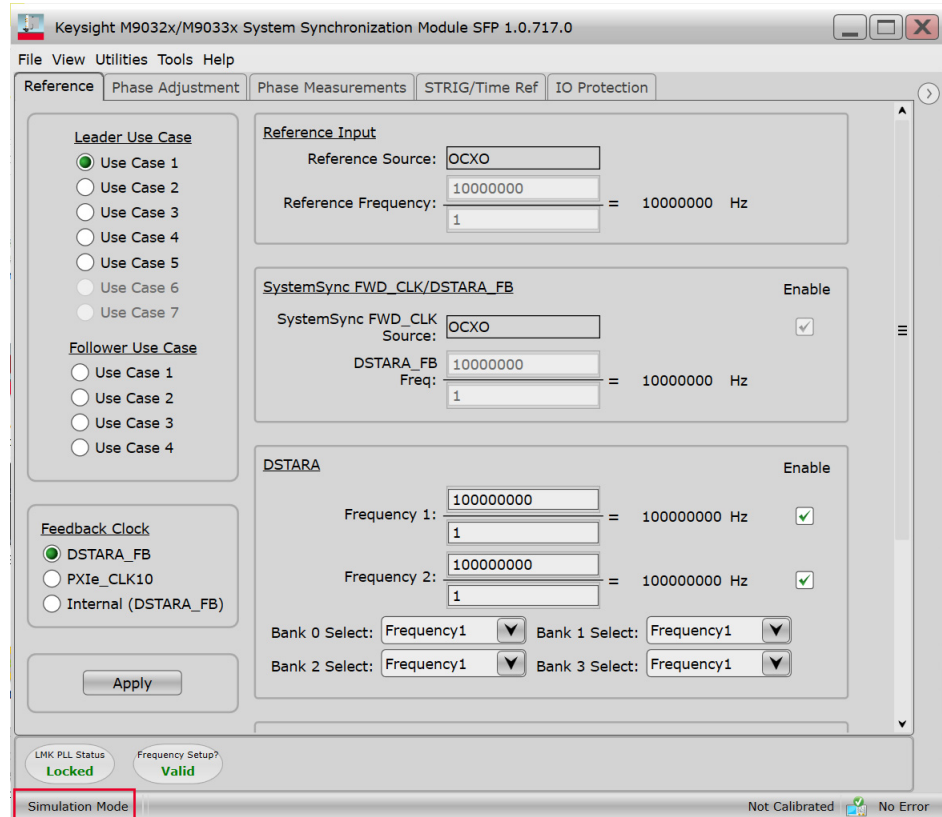

Figure 32 “Simulation Mode” in the status bar on the main window
- ‘Simulation mode’ enabled—This is the default mode of SFP operation. The **Simulation Mode** check box is selected by default and the **Simulate** button is displayed on the window. As the name indicates, this mode is used for offline SFP operations. In this mode, even if you select an active module (which is connected to a chassis in powered on state), toggling the SFP controls does not affect the signal state on the module. The status bar on the main window shows ‘Simulation Mode’, as shown in Figure 32.